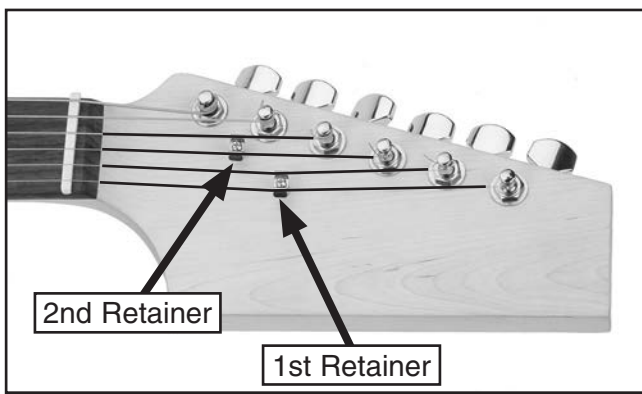

Figure 33. String retainer locations.
The string retainers mount between the 1st and 2nd strings and between the 3rd and 4th strings (**Figure 33**). String retainers are designed to hold the strings down against the nut to enable correct tuning.
3. Slide a 2.5 x 14mm screw through the retainer and bushing, then fasten it to the headstock (**Figure 33**).